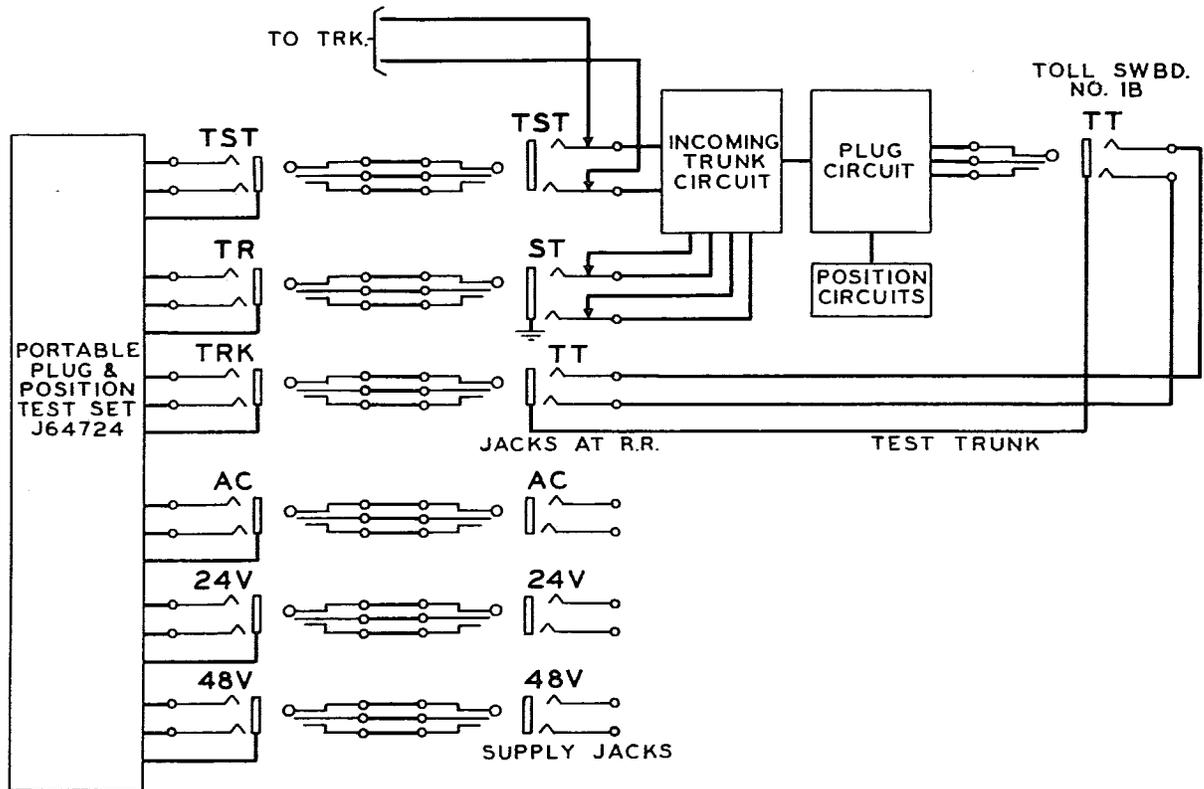

Fig. 4 - Test (E) - Trunks from Outlying Toll Offices - Composite Signaling - Without Call Distribution
Test (E) - Trunks from Outlying Toll Offices Composite Signaling - Without Call Distribution (See Fig. 4)